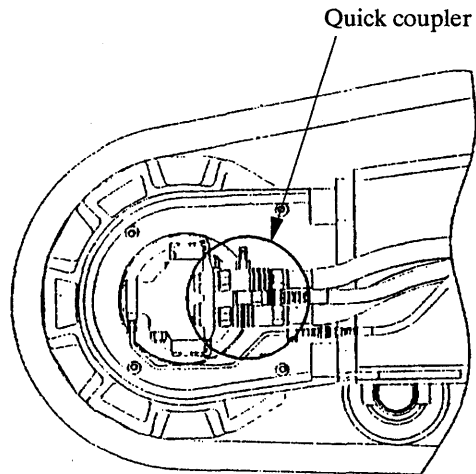

Fig. 11-16
- (1) Remove the right and left motor covers.
- (2) Disconnect the right and left hydraulic hoses for travel at the quick coupler section (4 pos. on one side). (Fig. 11-16)